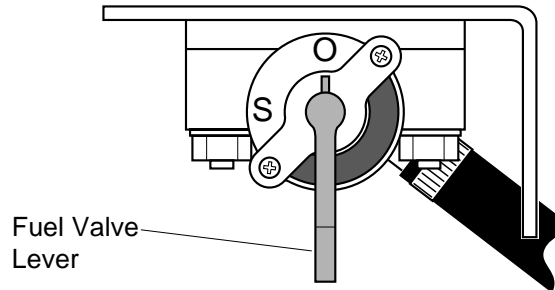

Figure 15 - Fuel Valve Lever In “O” (open) Position
2. Move fuel valve lever to the “O” (open) position (see Figure 15, page 22).
2. Move fuel valve lever to the “O” (open) position (see Figure 15).